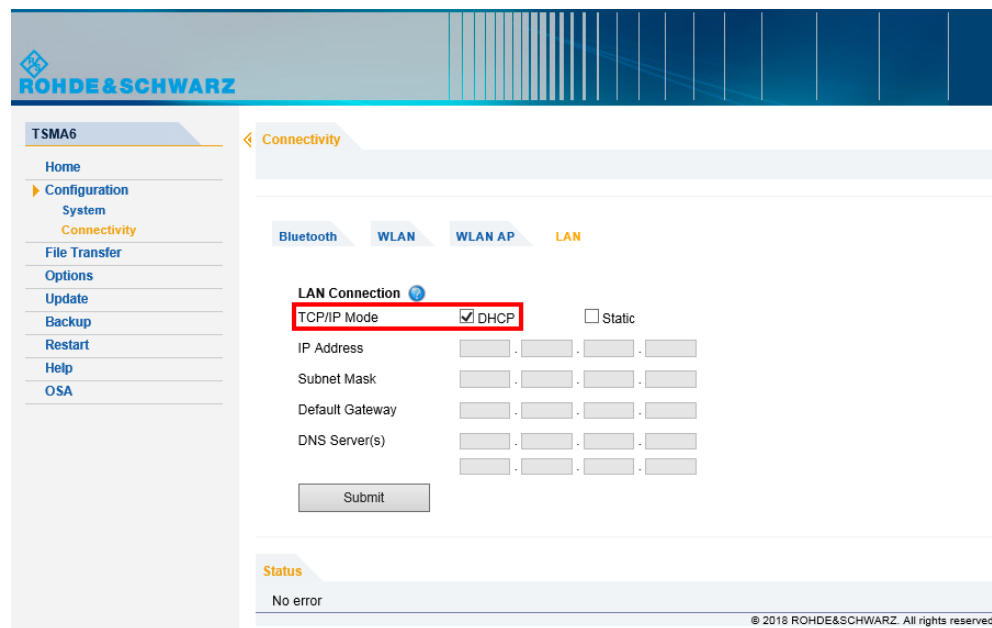

Figure 11-5: Web GUI - LAN Connection
3. Check the setting of the R&S TSM6B LAN port (see Figure 11-5). The default setting is "DHCP".